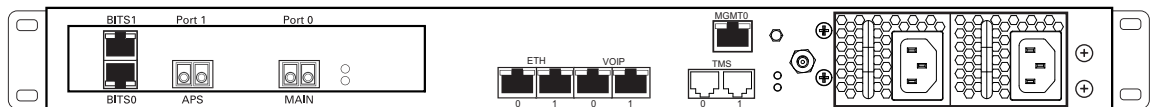

Figure 2.6 3200-STM1 Optical Interface to the PSTN
A 3200-STM-1, with one main and one backup OC3 or STM1 port enables connection to OC3/STM1 lines. See Figure 2.6 on page 21. Refer to Table 2.3 on page 21 for a listing of optical interfaces. The default SFP module for OC3/STM1 connection is SMF, intermediate reach, (SFP-OC3-IR1) 1310 nm with LC type connectors.
1. Connect a fiber optic cable between the Port 0 (Main) port and OC3/STM1 line, as shown in Figure 2.6 on page 21.